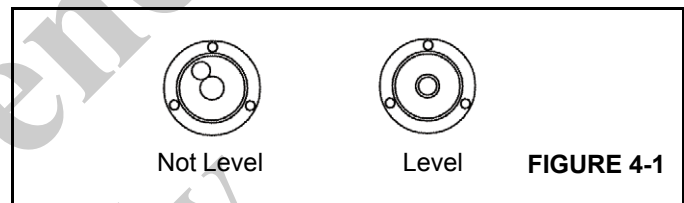

FIGURE 4-1
- Adjust the secondary level indicator with the adjustment screws so that the bubble is in the center (Figure 4-1).